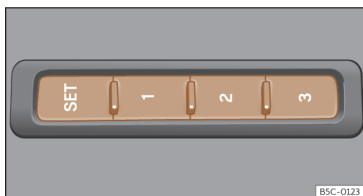

Fig. 99 On the outer side of the driver's seat: memory buttons.
- Press **SET** for longer than 1 second >>> **Fig. 99**.